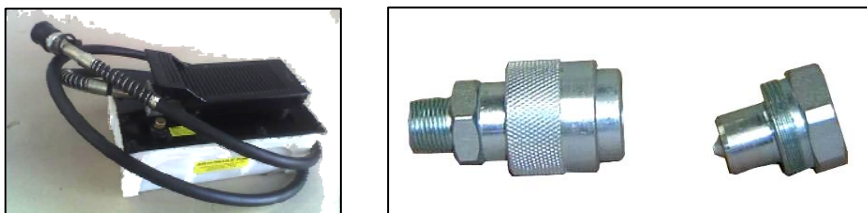

Figure 5.4
5.4 Hydraulic system: Include Hydraulic pumps, cylinders, oil gauge and oil tubes etc, provide power to the whole equipment. See figure 5.4